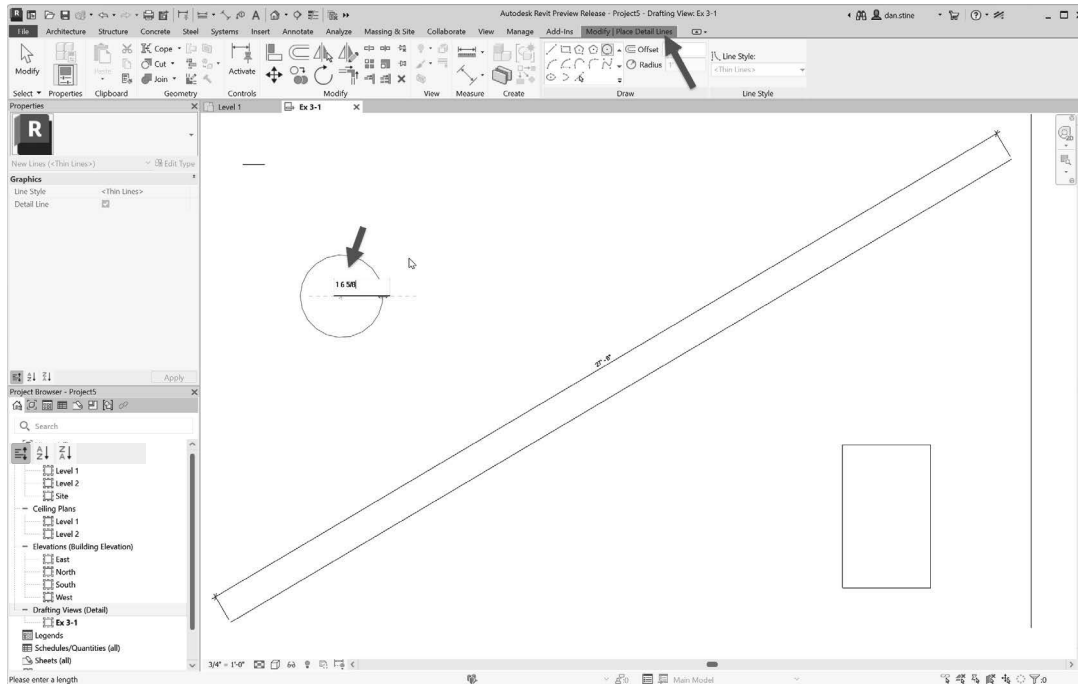

FIGURE 3-1.17 Drawing with Rectangle and Circle added
- 42. Type **1 6 5/8** and then press **Enter** (Figure 3-1.17).